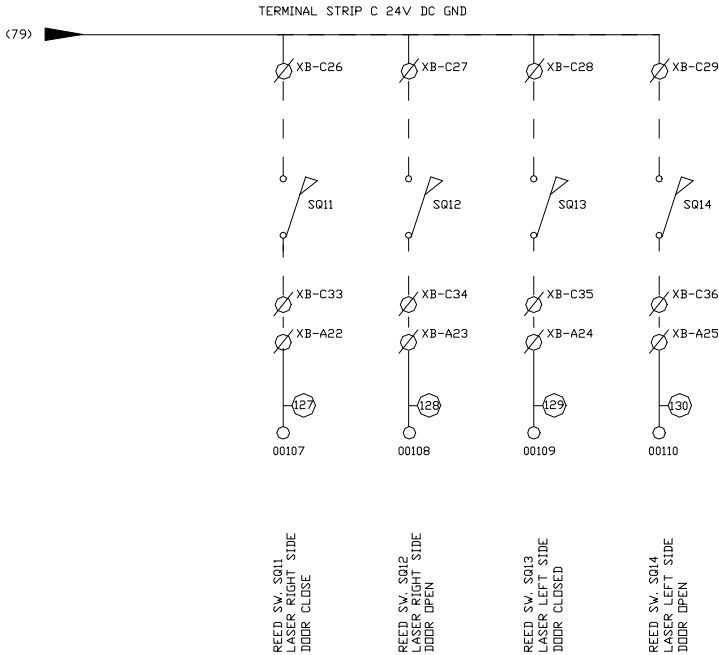

Figure 4.8 – SP-2 PLC Inputs for doors schematic
- The laser is energized when the doors are all closed (see fig.4.8). The laser is also on the Emergency Stop circuit which will shut down the laser in the event of an E-Stop or when the front door is opened.